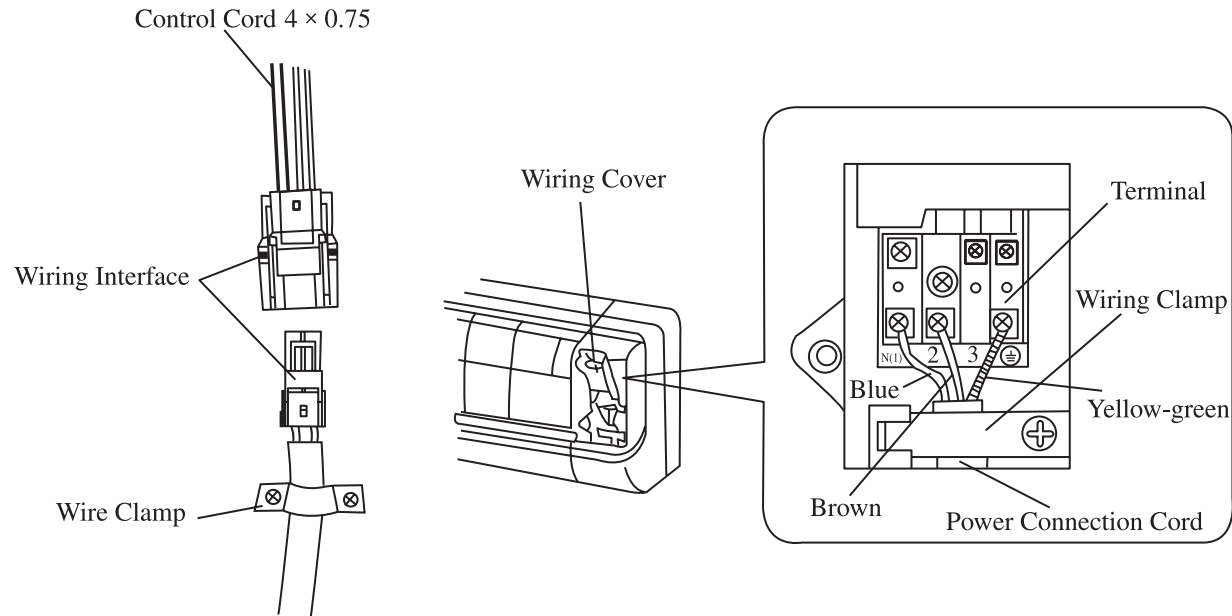

Fig.4
2. Remove the wiring cover(Fig.4).
4. Connect the blue wire of the power connection cord to the terminal “N(1)”, the brown one to “2”, and the yellow- green one (earth wire) to “ \perp ” as shown in Fig.4.
5. For the heat pump type, connect the control cord (4×0.75) to the indoor unit through wiring interface shown in Fig.4, and clamp the connected cord on the chassis.